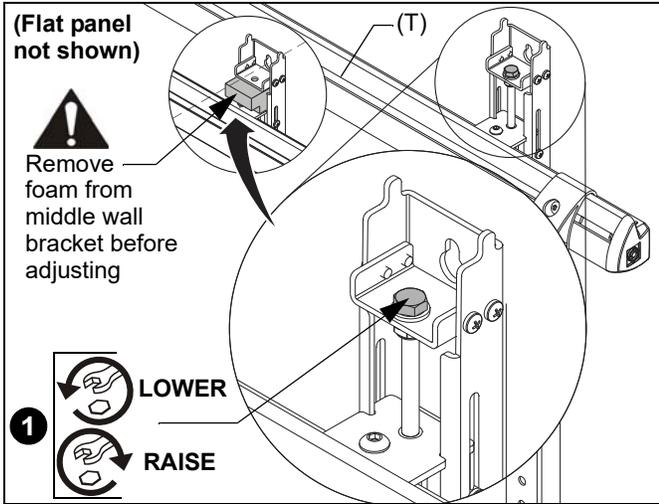

Figure 17
IMPORTANT ! : Be sure to remove the foam block contained in the middle wall bracket **BEFORE** adjusting or leveling the wall assembly. (See Figure 17)
1. The wall assembly (T) can be adjusted or leveled by turning the hex head bolt in the wall brackets. (See Figure 17)